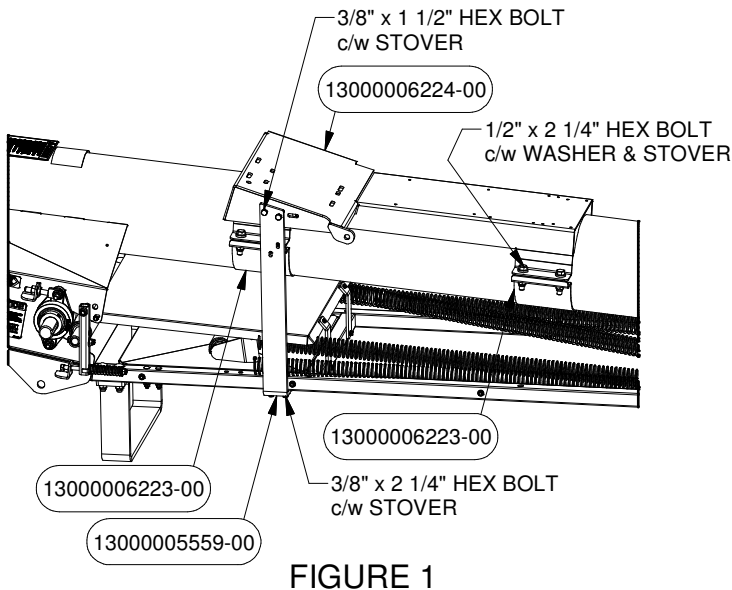

FIGURE 1
1. Attach the Motor Mount PN# 6224 and Clamps PN# 6223 using Hex Bolts c/w Nylock Nuts and Washers to the Intake PN# 5810. See Figure 1 for details. Take note that the Motor Mount should be 10 1/4" away from the bottom Return.